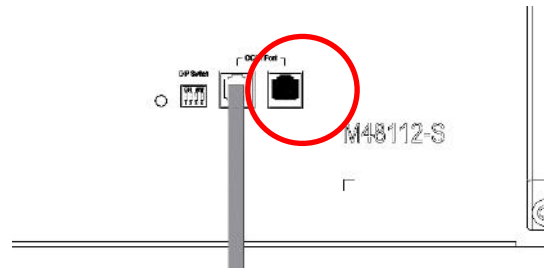

Figure 4.13 Terminal resistance in the top battery of each cluster
b. Take the terminal resistance in the HV900112 parts list and insert it into the top battery COM port of each battery cluster. You can see the detailed information Figure 4.13.